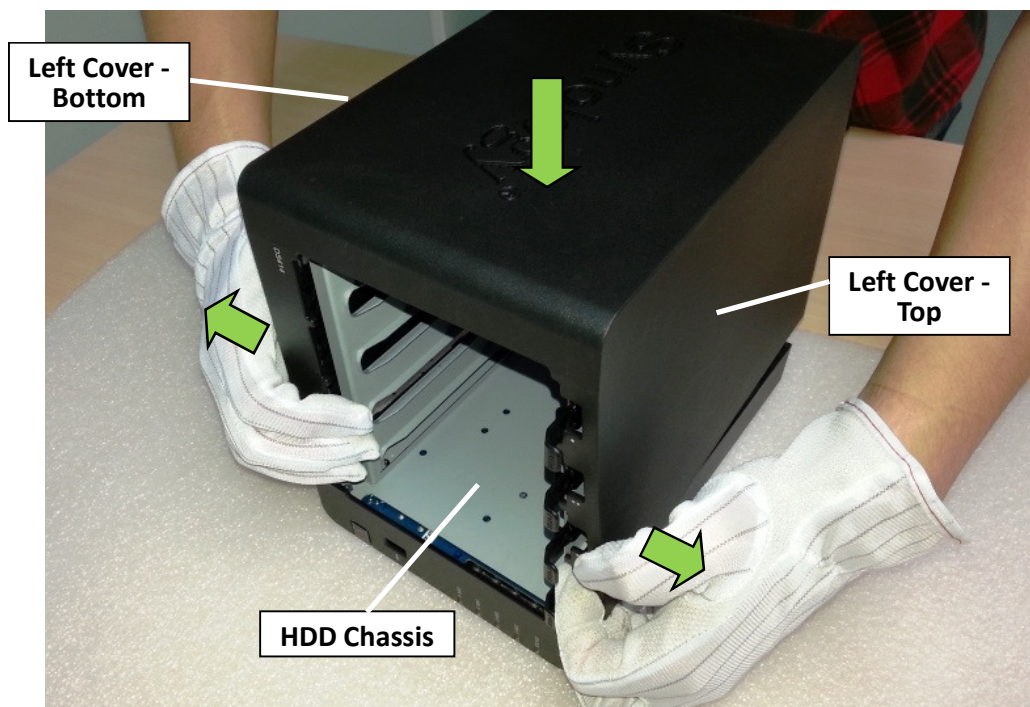

Fig. 36
- 2.2.10 Slightly bend both the top and bottom portions of the left cover outwards and put it back to the original location covering the HDD chassis. (Fig. 36)